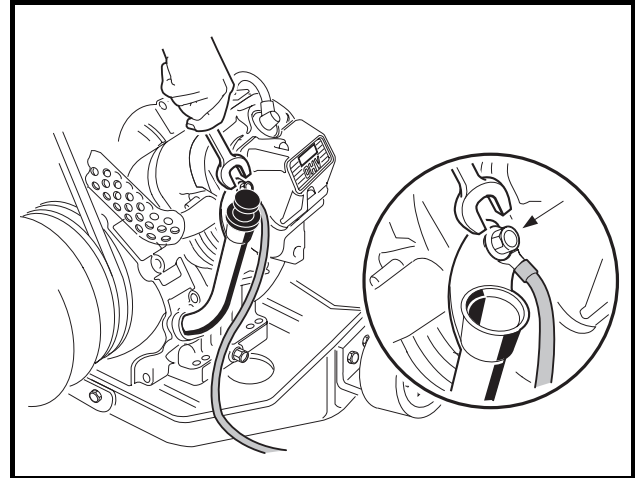

Figure 19-14 Engine Ground Wire and Retaining Nut
- 4.6. Remove retaining nut and disconnect the engine ground wire from the oil filler tube mounting bracket (**Figure 19-14, Page 19-8**).